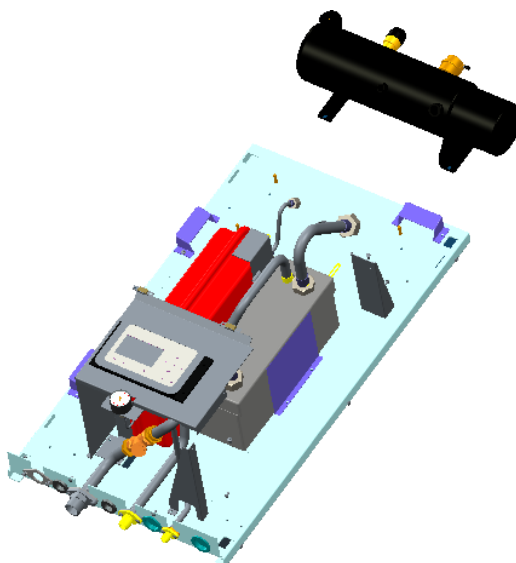

Fig.5
4) Electric heater, automatic air outlet valve and relieve valve [See Fig.5]